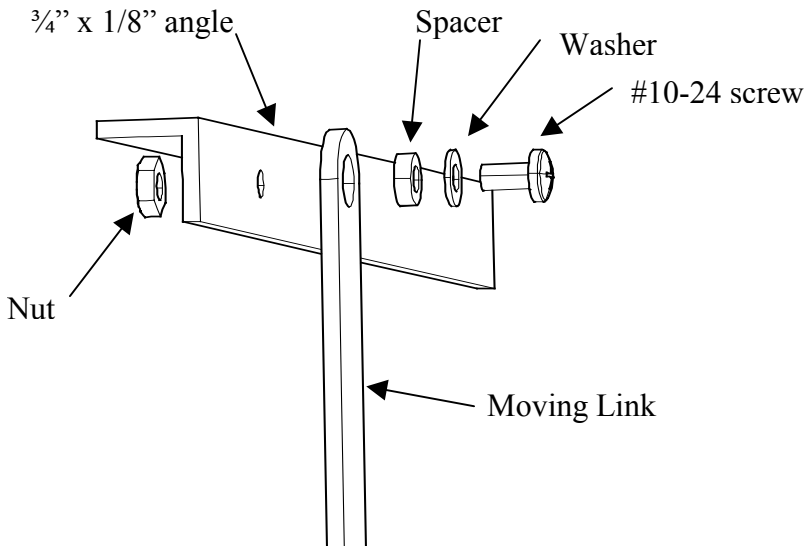

Figure 2 Exploded view of a typical joint assembly.
**3/8" OD x 1/8" long brass spacers** – The spacers will serve as bearings for the revolute joints. A 3/8" dia. hole is drilled into the moving member of the joint and the spacer is placed in the hole. The 10-24 screw fits thru the center of the spacer and serves as the axle. Figure 2 shows an exploded view of a typical joint assembly. Each group is issued 12 spacers. This should be enough to make 12 joints. Each rocker should only need 10 joints